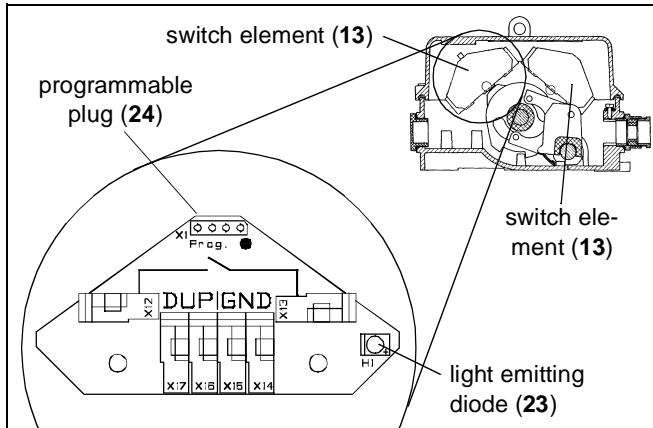

Fig. 5-10: HEN and HEK with DUPLINE bus terminal
2. Program the pull rope switch type HEN resp. HEK with DUPLINE bus terminal on the required address on your system (see also section 3.2 „HEN and HEK with DUPLINE bus terminal“ and fig. 5-10).